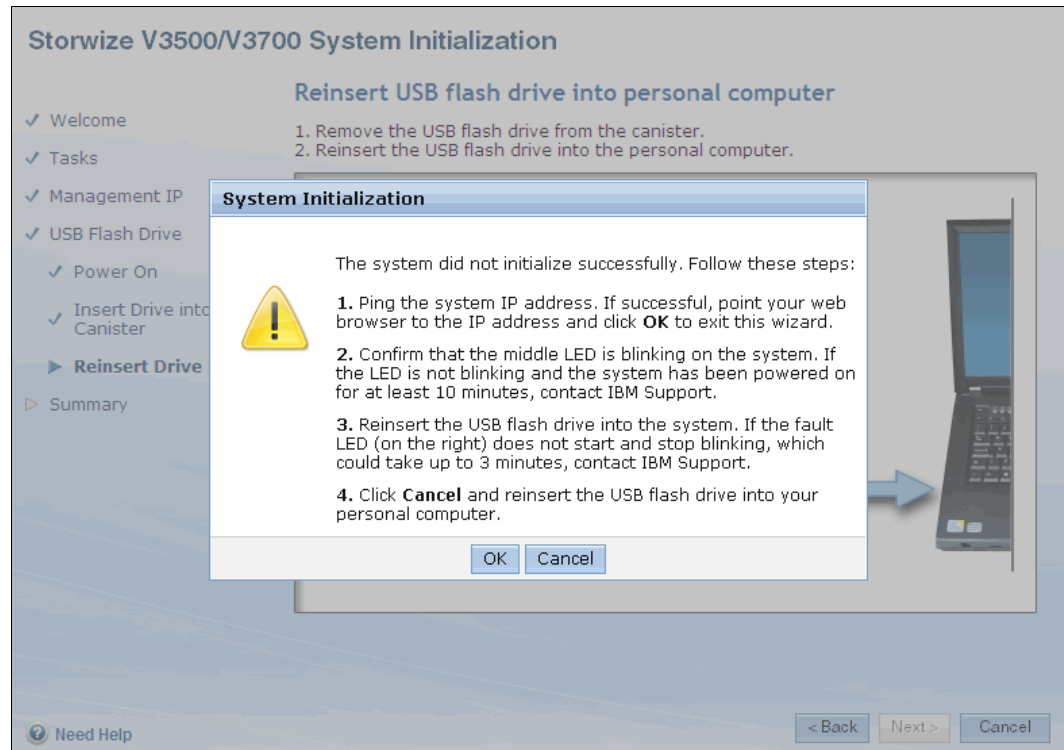

Figure 2-17 Initialization failure
10. If the connectivity to the IBM Storwize V3700 cannot be verified, the wizard displays the error message shown in Figure 2-17.